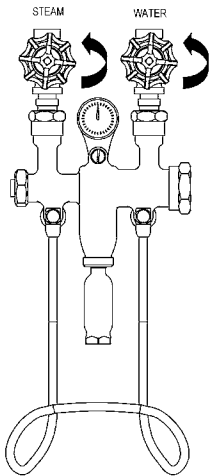

Figure 2:
- 2. Turn on the cold water valve, located on the right side of the unit, counter clockwise. (see Fig. 2)
3. With an adjustable wrench, turn hex nut 'D' in a clockwise direction until internal parts are fully extracted, as shown in Fig. 2.